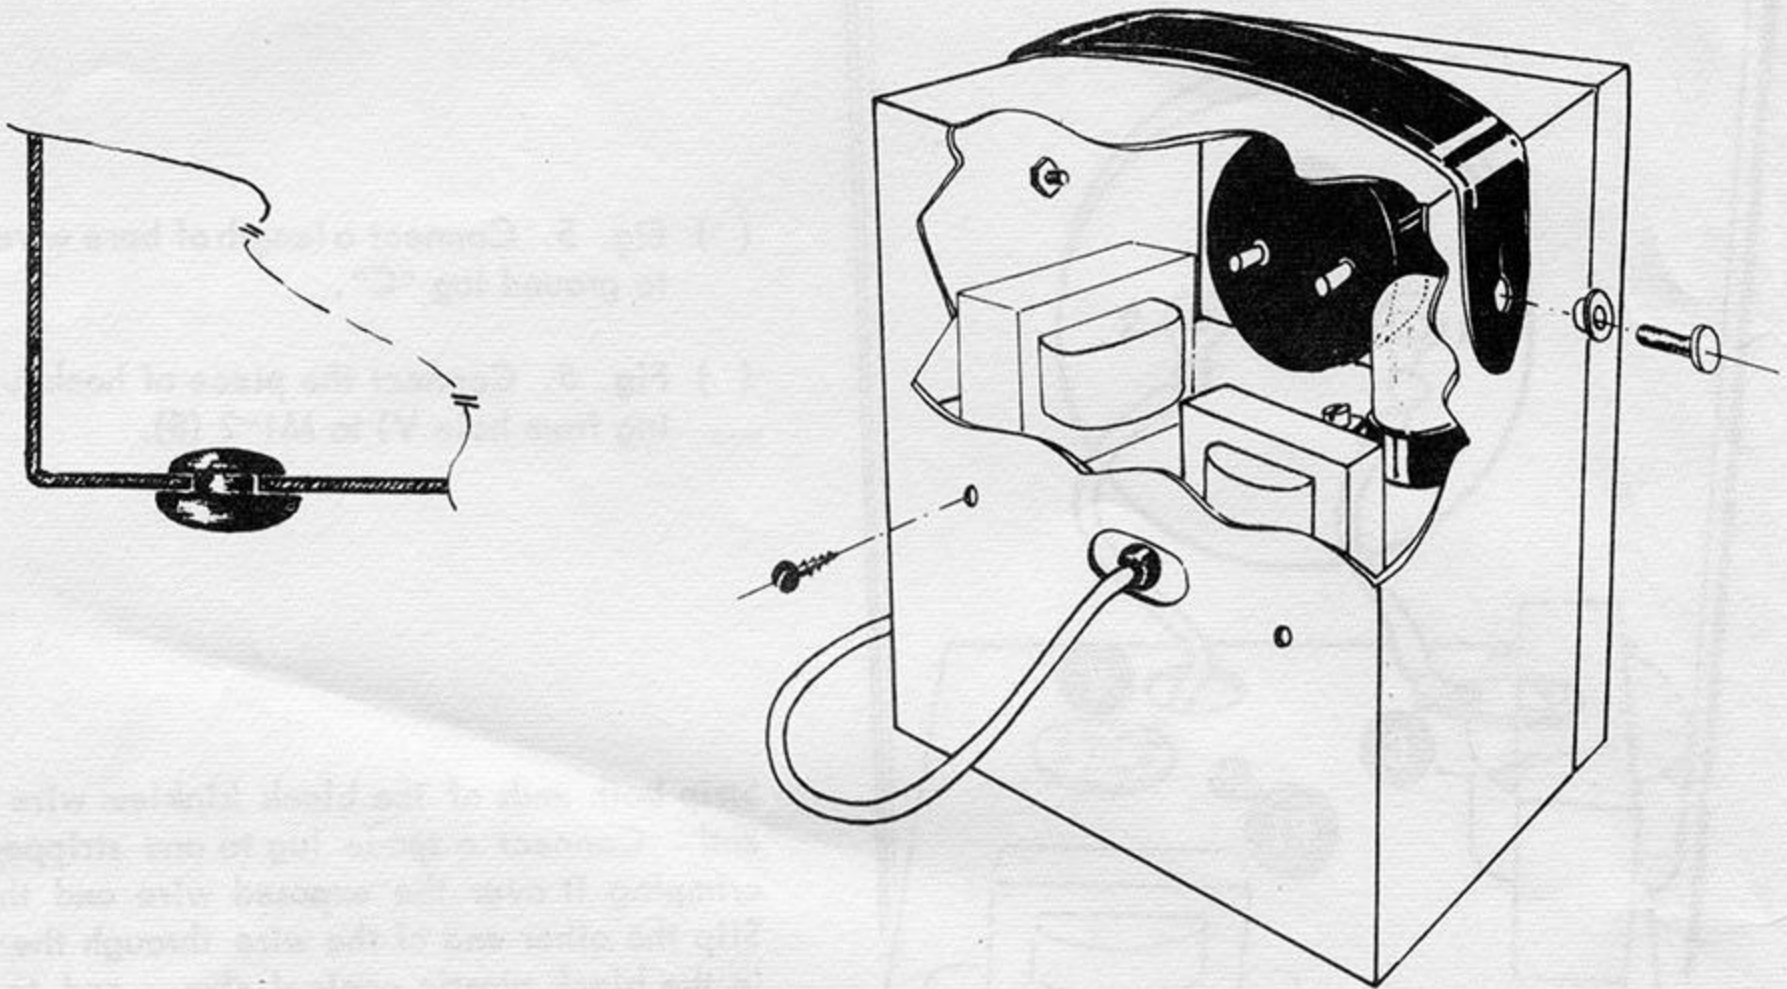

Fig. 6
7) Mount the leather handle on the cabinet using two brass eyelets, two #10-24 screws, and two #10-24 nuts. See Fig. 6 for a detailed drawing of the assembly.